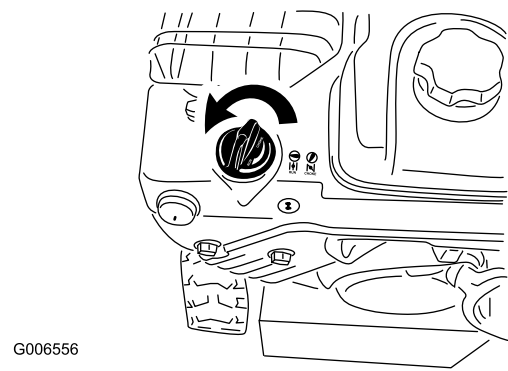

Figure 28
5. Rotate the choke to the Choke position (Figure 28).